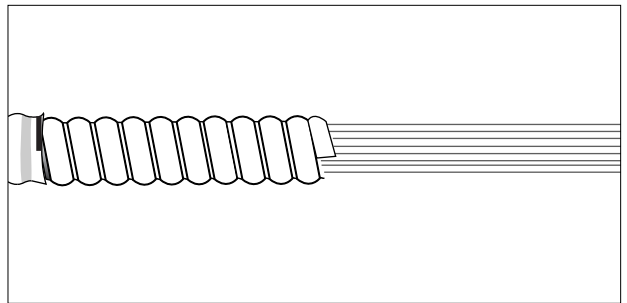

Figure 13 — Exposed cable core
Step 15: Remove the jacket from the DX armor back to the A mark (Figure 13).